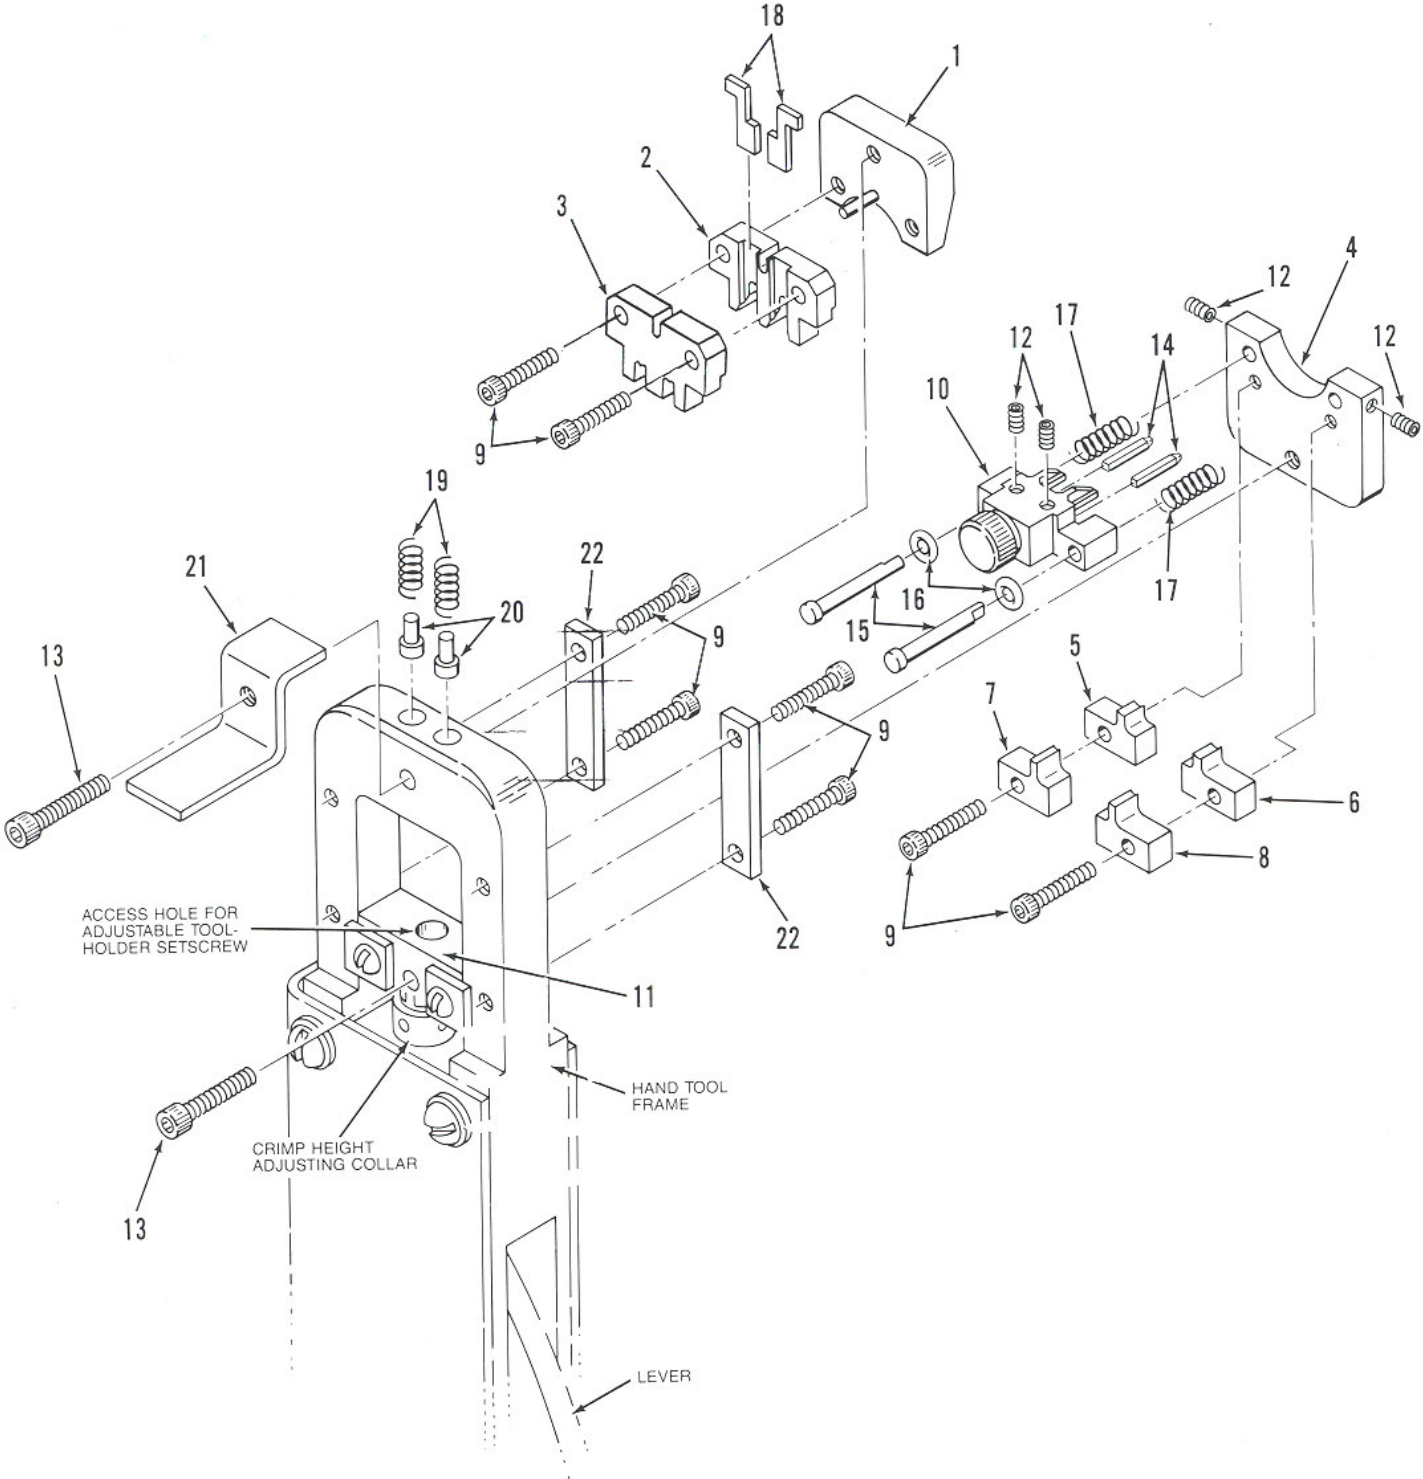

Figure 15. HT-95 Hand Tool Parts
**Wire and Insulation Barrel Crimpers and Tonker Removal** (See Figure 15)
1. Loosen but do not remove at this time, the two 4-40 cap screws (9) that secure the crimpers to the crimper holder (1).
2. Remove the 6-40 cap screw (13) from the crimper holder (1). Then remove the spring retainer (21) and the crimper holder (1) with crimpers attached.
3. Remove the two-tonker spring's (19) and the two springs guide's (20) from the hand tool frame. This can be accomplished by tilting the hand tool down.
4. Remove the two 4-40 cap screws (9) that secure the crimper holder (1).
5. Remove the crimpers (2 and 3) and tonkers (18) from the crimper holder.
6. Remove the damaged crimper(s) (2 or-3). The top crimper is the wire barrel crimper (3).
### **Holding Pin Removal** (See Figure 15)
These are parts that FCI considers practical for the user to stock for replacement. Recommended spare parts for the hand tool are specified in bold type in the parts list for Figure 15.
### *Parts List for Figure 15. HT-95 Hand Tool Parts*